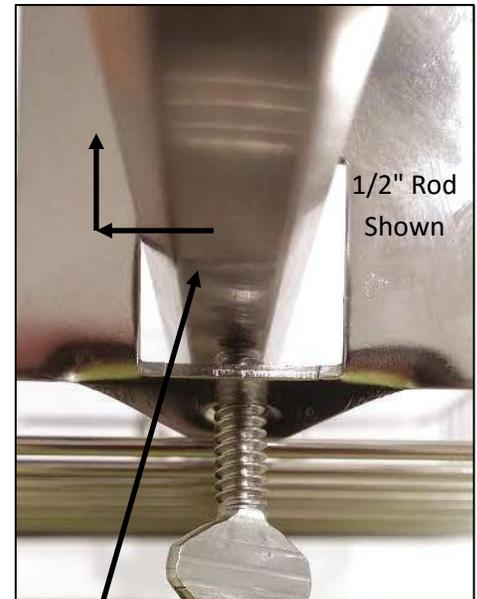

Fig. 2
Step 2 (a): **For 1/2" hexagon spit rod mounting:** Insert the spit rod into one end of the basket and through the other side of the basket. Justify the spit rod so that the edge of the spit rod is forced as close as possible to one upper corner of the mounting plate. Once in desired location, tighten the thumbscrews to secure. Please note that the thumb screws should be snug, but not over-tightened. Over-tightening will bend the mounting plate and degrade clamping force. See Fig. 2.